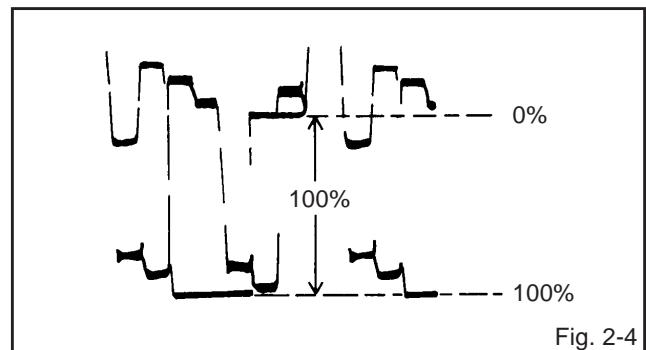

Fig. 2-4
5. Press the channel button (3) on the remote control.
7. Press the VOL. UP/DOWN button on the remote control until the red color level is adjusted to 100% of the white level. (Refer to Fig. 2-4)